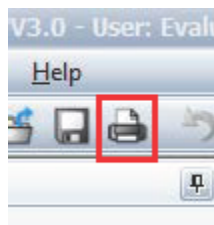

Figure 27. Print Icon
1. Click on the Printer icon at the top of the software outlined in red in Figure 27. A Print Preview window will open up. On the top bar, click the icon for "Export as a PNG" outlined in red in Figure 28. This opens the File Save window. Save with the same name as the RAW file. If the names do not match exactly, the files will not upload. Then close the windows and repeat the process for the next sample.